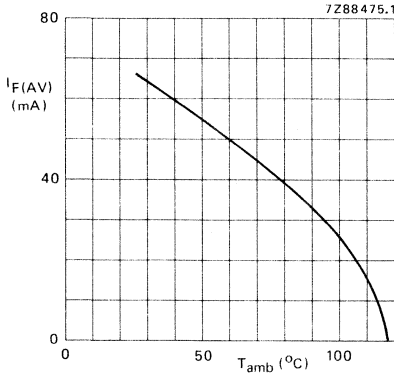

Fig. 4 Maximum permissible average forward current as a function of the ambient temperature; $V_R = V_{RW \max}$; $a = 1,42$, mounting Fig. 2.
* Figs 4 and 7 apply to switched mode application.